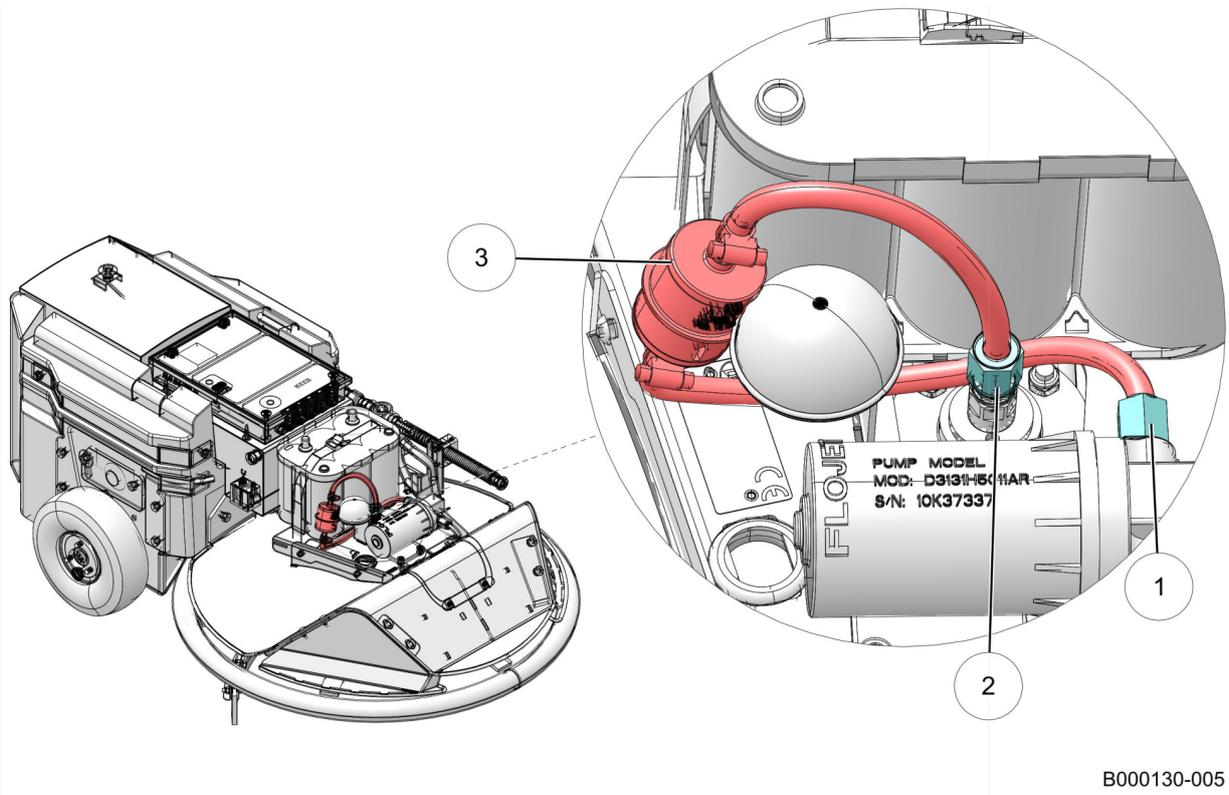

Figure 43. Clean the water outlet filter
1. Disconnect the filter tubes from the pump (1) (see figure 43 on page 6-6) and the throughput to the spray nozzle (2).